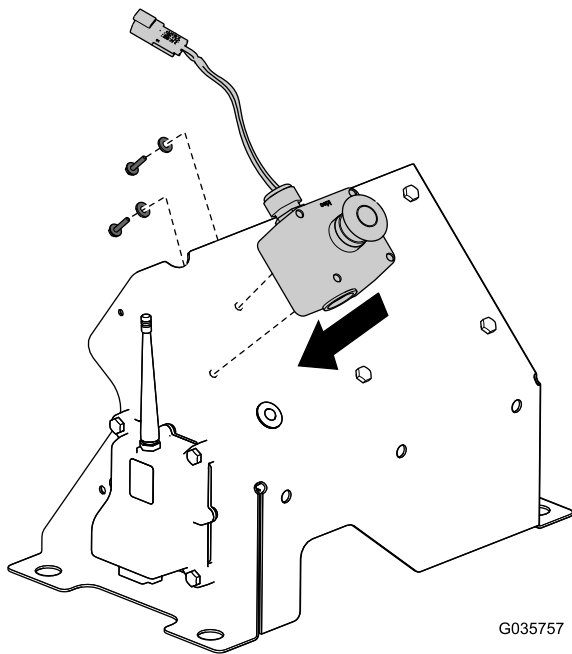

Figure 13
13. Install the previously removed E-stop button assembly onto the cover (Figure 13).